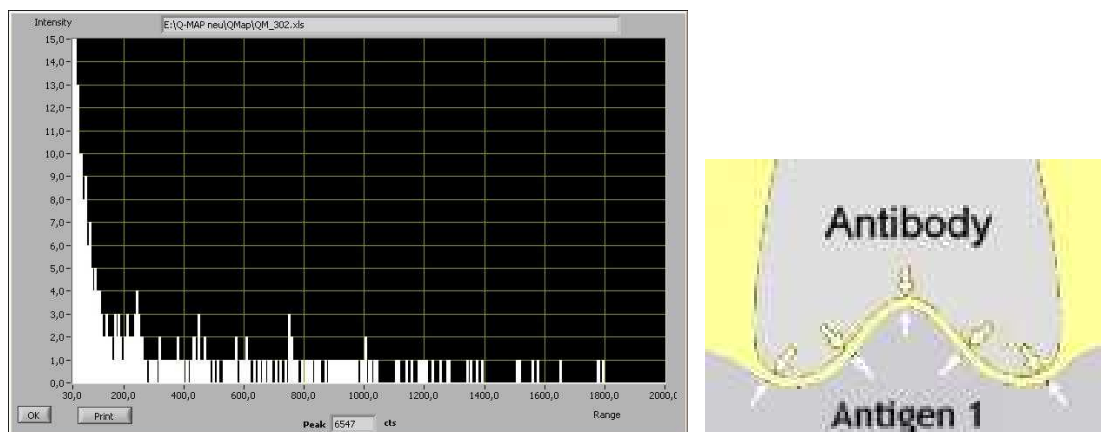

fig. 2
2. After a filtered antibody solution reacts with an antigen solution, microprecipitates of different sizes occur. If the microprecipitates reach a size that lies above the related filter size, they become as a newly emerged particle visible. The amount and sizes of these particles are determined over transition time measurement in the laser focus and are represented graphically online (figure 2).